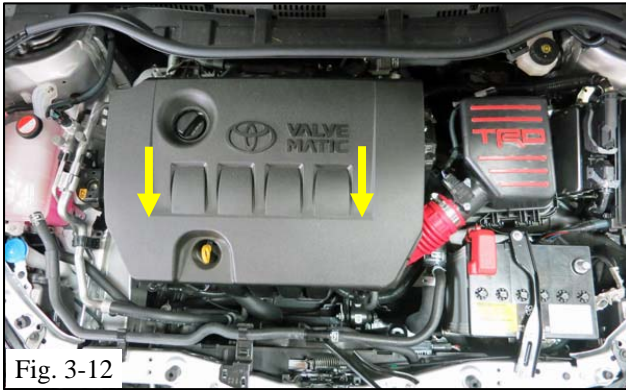

Fig. 3-12
- (m) Align the engine cover grommets above the mounting pins and push down to install the engine cover (Fig. 3-12).